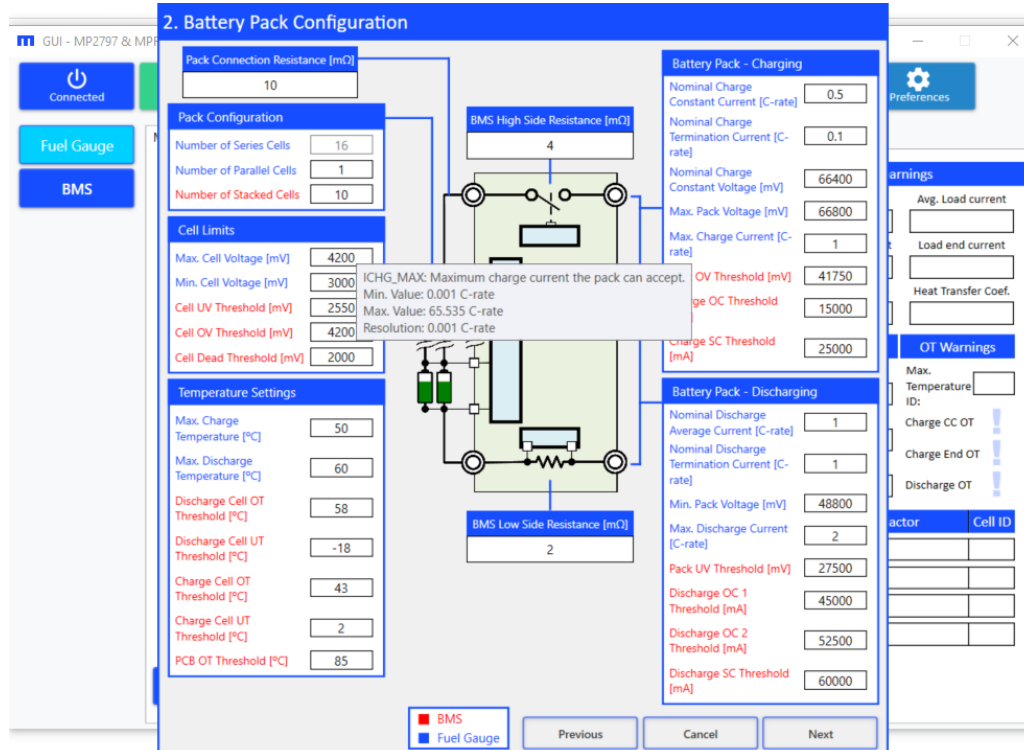

Figure 35: Configuration Wizard 3 – Battery Pack Configuration (Register Details)
- Place the cursor on top of a register name to display the register's information (see Figure 35). For more detailed information on the fuel gauge registers, refer to the relevant MPF4279x datasheet.